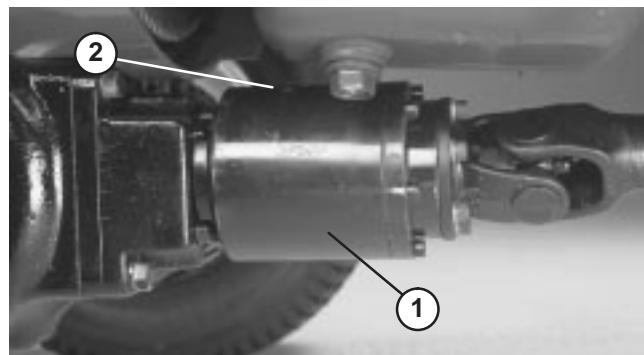

Figure 75
3. Rotate clutch so check plug is positioned downward (Fig. 75).